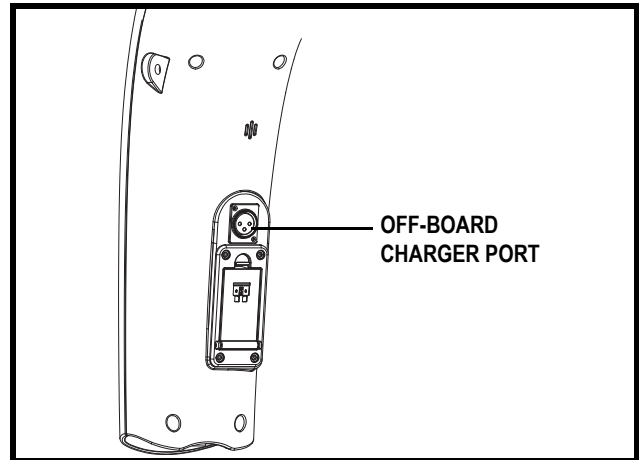

Figure 5. Off-board Charger Port (Tiller Mounted)
The off-board charger power cord plugs into this port during battery charging. The off-board charger port will be located on the tiller or on the right battery box depending on which scooter model you own. See figures 5 and 5A.
5. Plug the 3-pin charger power cord into the off-board charger port. See figures 5 and 10A.